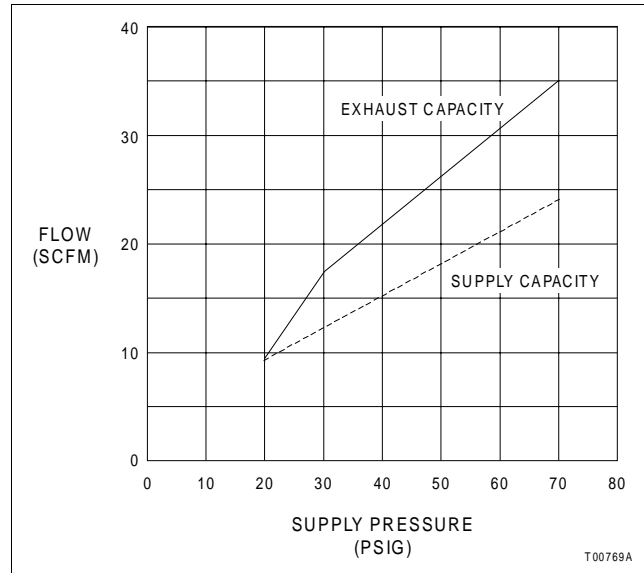

Figure 1-1. Capacity Data of Type AV3/4 Positioners (Exhaust to Atmosphere)
- **High Capacity.** More than 0.65 cubic meters per minute (23 standard cubic feet per minute) can be supplied or exhausted from the positioner at 483 kilopascals (70 pounds per square inch) supply pressure. See Figure 1-1 in **SPECIFICATIONS**.
Capacity (max. capacity, exhausting to atmosphere)	See Figure 1-1.